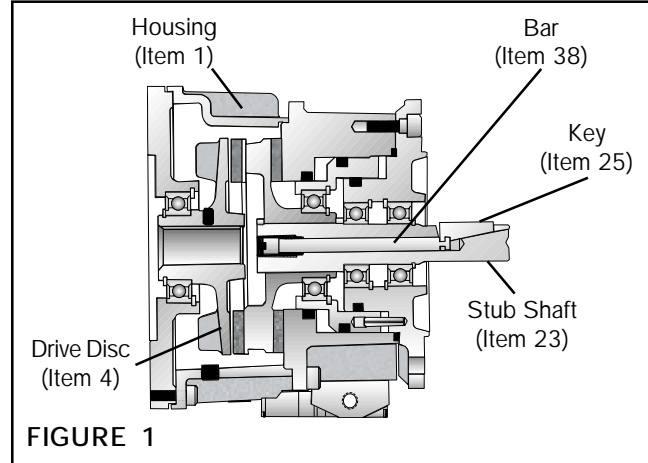

FIGURE 1
1. Coat the threads of the Bar (Item 38) with Loctite® 242; then, thread the Bar into the Stub Shaft (Item 23) until the end of the Bar is visible in the keyway slot of the Stub Shaft (See Figure 1).
2. Apply a thin film of Never-Seez® to Key (Item 25) (See Figure 1).
3. Place the Key (Item 25) into the keyway of the Stub Shaft (Item 23) (See Figure 1).